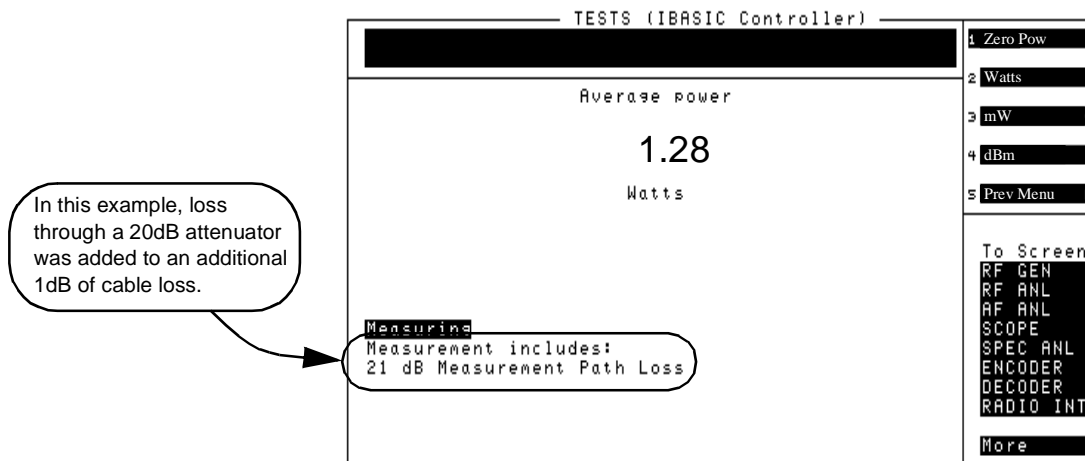

Figure 7
- 5 The resulting menu (see figure 7) will display average power (in Watts) applied to the RF IN/OUT port. The average power displayed is corrected for the loss value entered in the **Configuration Information Menu** under **TX Measurement Path Loss**.